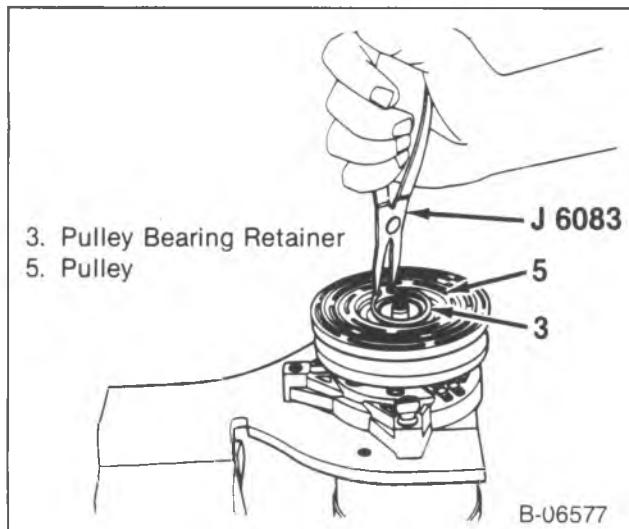
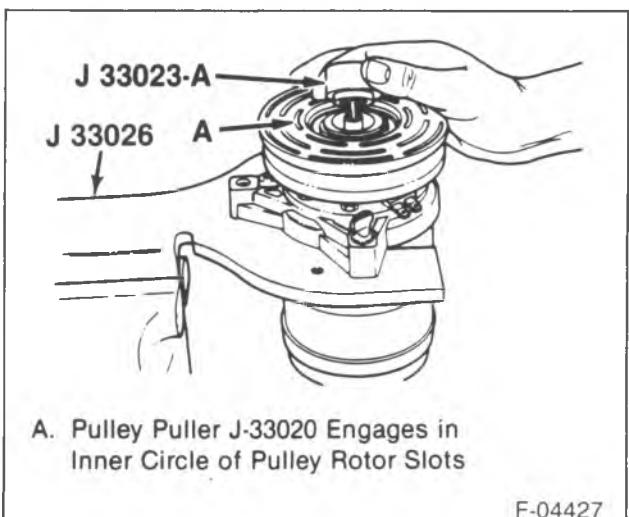

Figure 9—Removing the Pulley Rotor and Bearing Retaining Ring
Figure 10—Installing the Puller Pilot and Pulley Rotor Slot Location
1. Clutch plate and hub assembly (2).
2. Pulley bearing retainer (3) using J 6083 (figure 9).
3. Pulley (5).
- Install J 33023-A to the front head (figure 10).
- 4. Pulley bearing retainer (3) using J 6083 (figure 9).
- 5. Clutch plate and hub assembly (2).